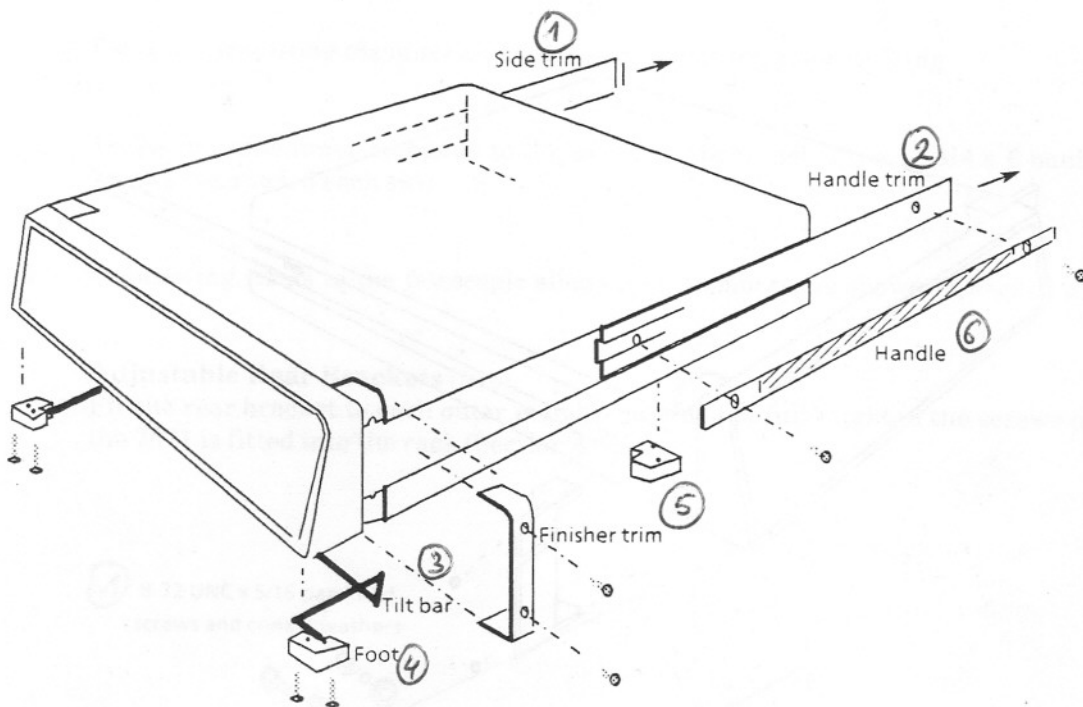

Fig. 2.2 Removal of trims, handle, feet and tilt bar
4.3.1 Remove the following items from the unit, as shown in Fig. 2.2: